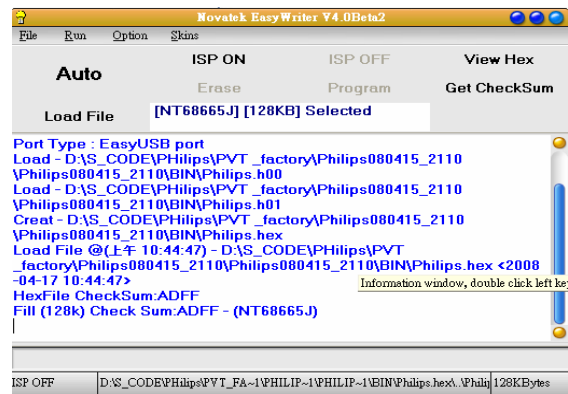

Fig4
4. Double press the "H00" file or "H01 file" ,then it acquires the hex file automatically, and a message will be showed in the dialog box to notice the operator. At this moment, please verify the checksum of the hex file with the firmware control table to make sure the suitable file will be used. Mentioned firmware control table will be provided by suppliers shown in Fig. 4.